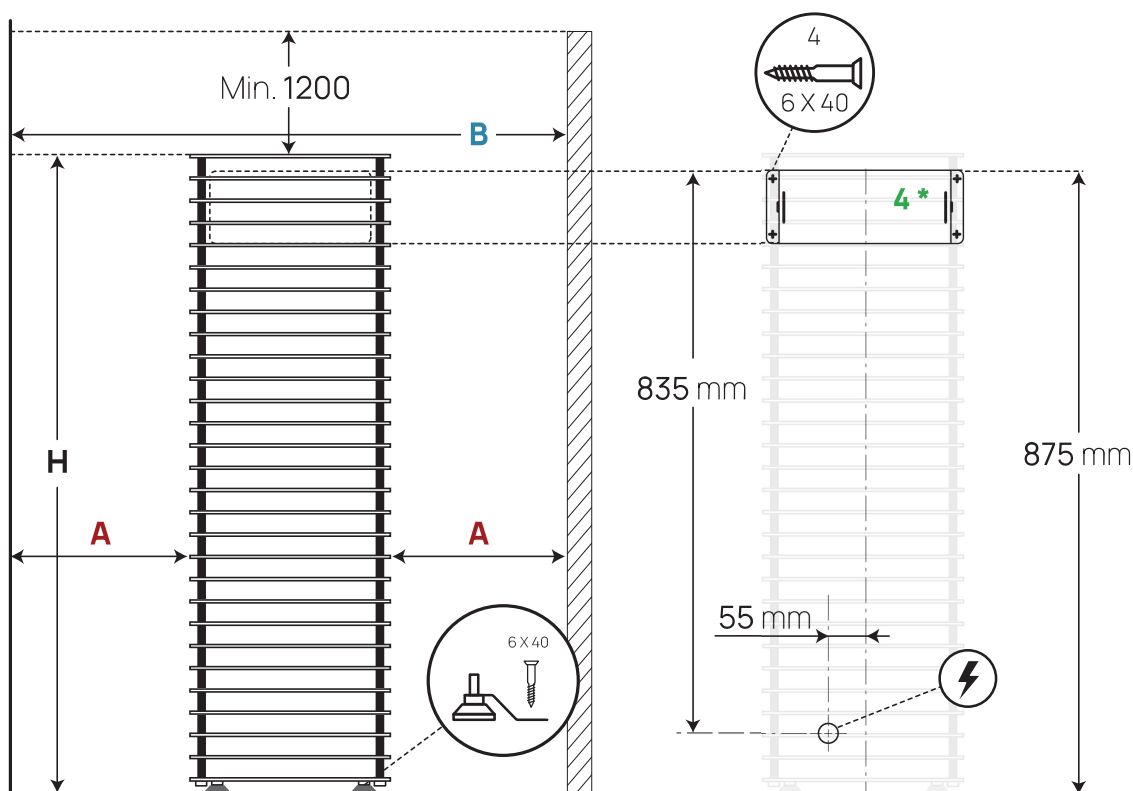

Figure 1. Positioning of the heater
Minimal safety distances between the sauna room's ceiling and walls in view of installing the electric heater have been provided in **Table 1** and **Figure 1**.
- **HUUM CLIFF 6, 9 and 11** models are attached to the floor using the included brackets. Install the bracket to the heater leg as shown in Figure 1 and fix it with a screw corresponding to the construction of your floor (recommended min. 6 x 40mm).
- Attach **HUUM CLIFF Mini 4** to the wall of the sauna room using the wall mounting plate included in the package. See **Figure 1**.